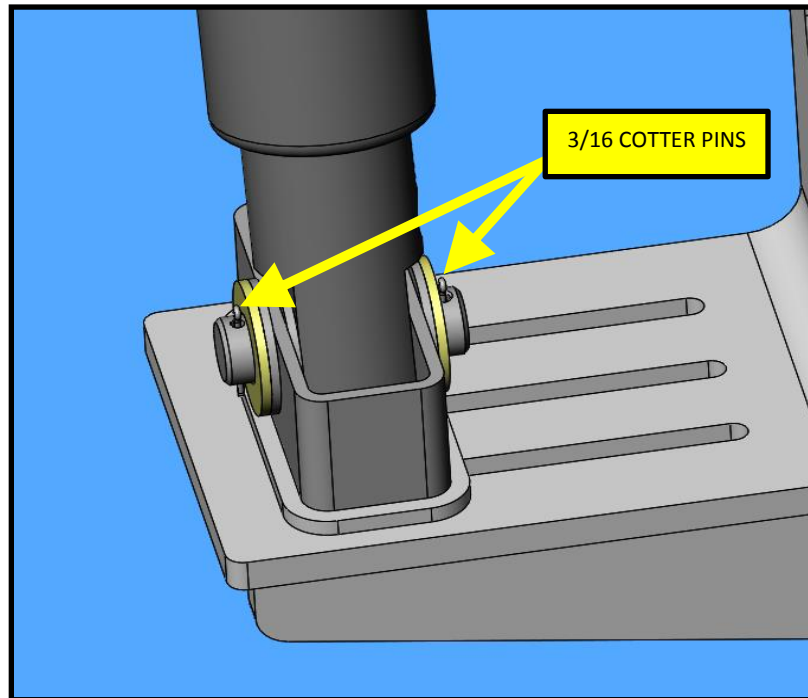

FIG. 4-2
7. Remove and properly dispose of (2) 3/16 cotter pins. Refer to FIG 4-2.